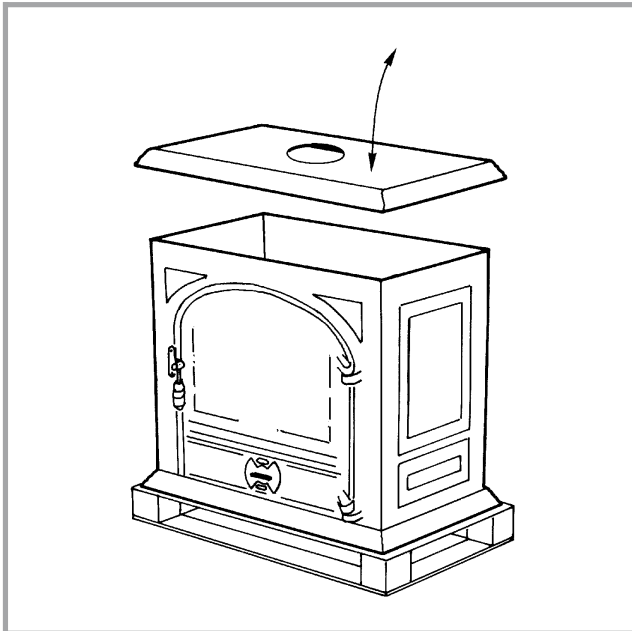

Figure 2 - Removal of cast iron top
Remove the cast iron top from the stove (Fig.2), unscrew the two bolts securing the stove to the pallet and remove the stove from the pallet.
- Lift the cast iron top from the stove (fig. 2, p. 5).